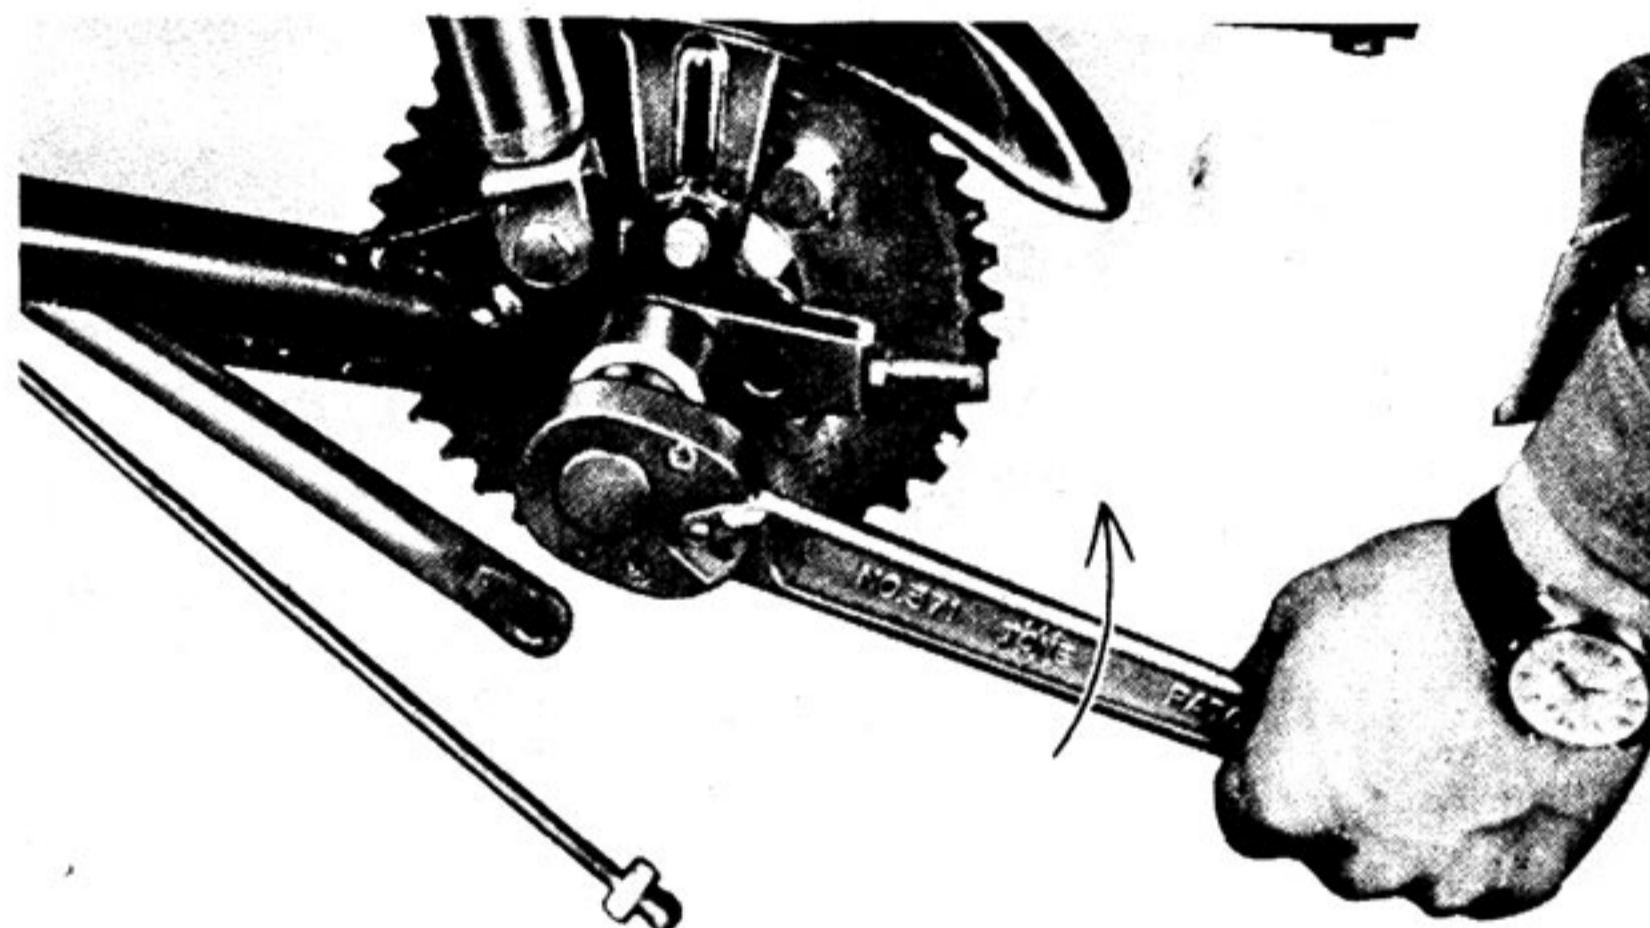

Fig. 5-4-2
- (2) Remove the sprocket shaft nut, then the sprocket. (Fig. 5-4-2)